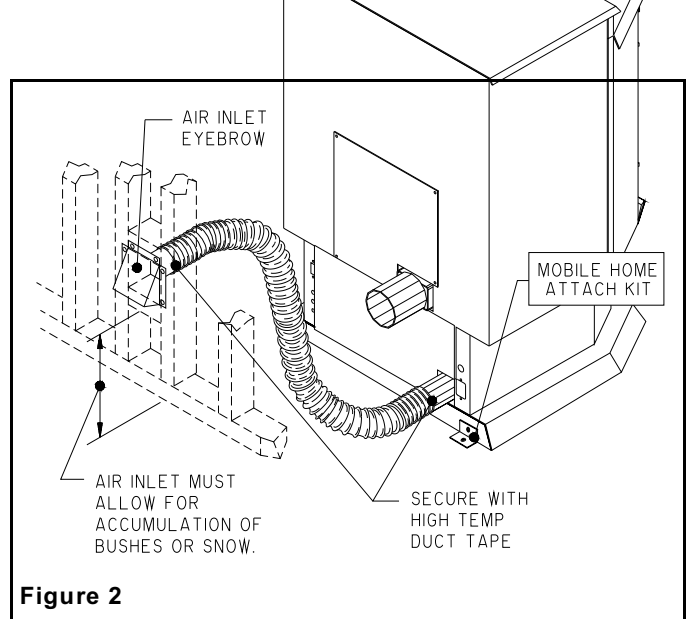

Figure 2
**An outside air inlet MUST be provided for combustion and ventilation air.** The air inlet must remain unrestricted while unit is in use. Outside air connection is located in the rear of the heater (Figure 2). Use conduit pipe or metal flex pipe and/or fittings to make the air intake hook-up.